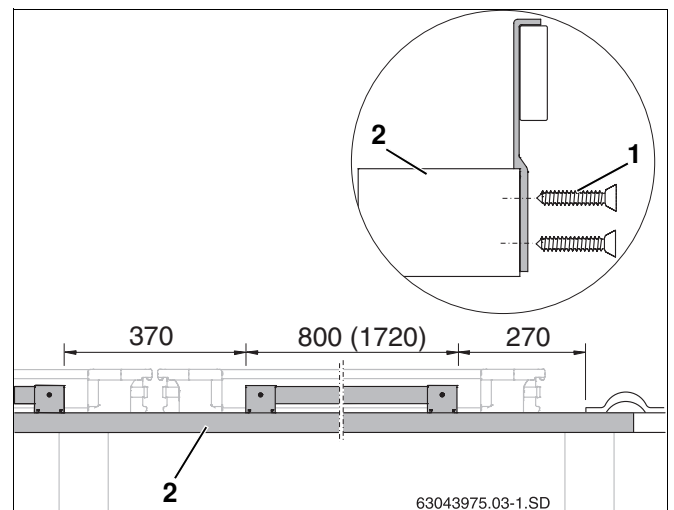

Fig. 11 Fasten anti-slip protection devices to roof batten (measurements in mm, value in brackets = horizontal version)
- Place pre-assembled anti-slip protection device to the first additional roof batten (Fig. 11, **Item 2**), and fasten using two screws 4×40 (Fig. 11, **Item 1**) (observe measurements).